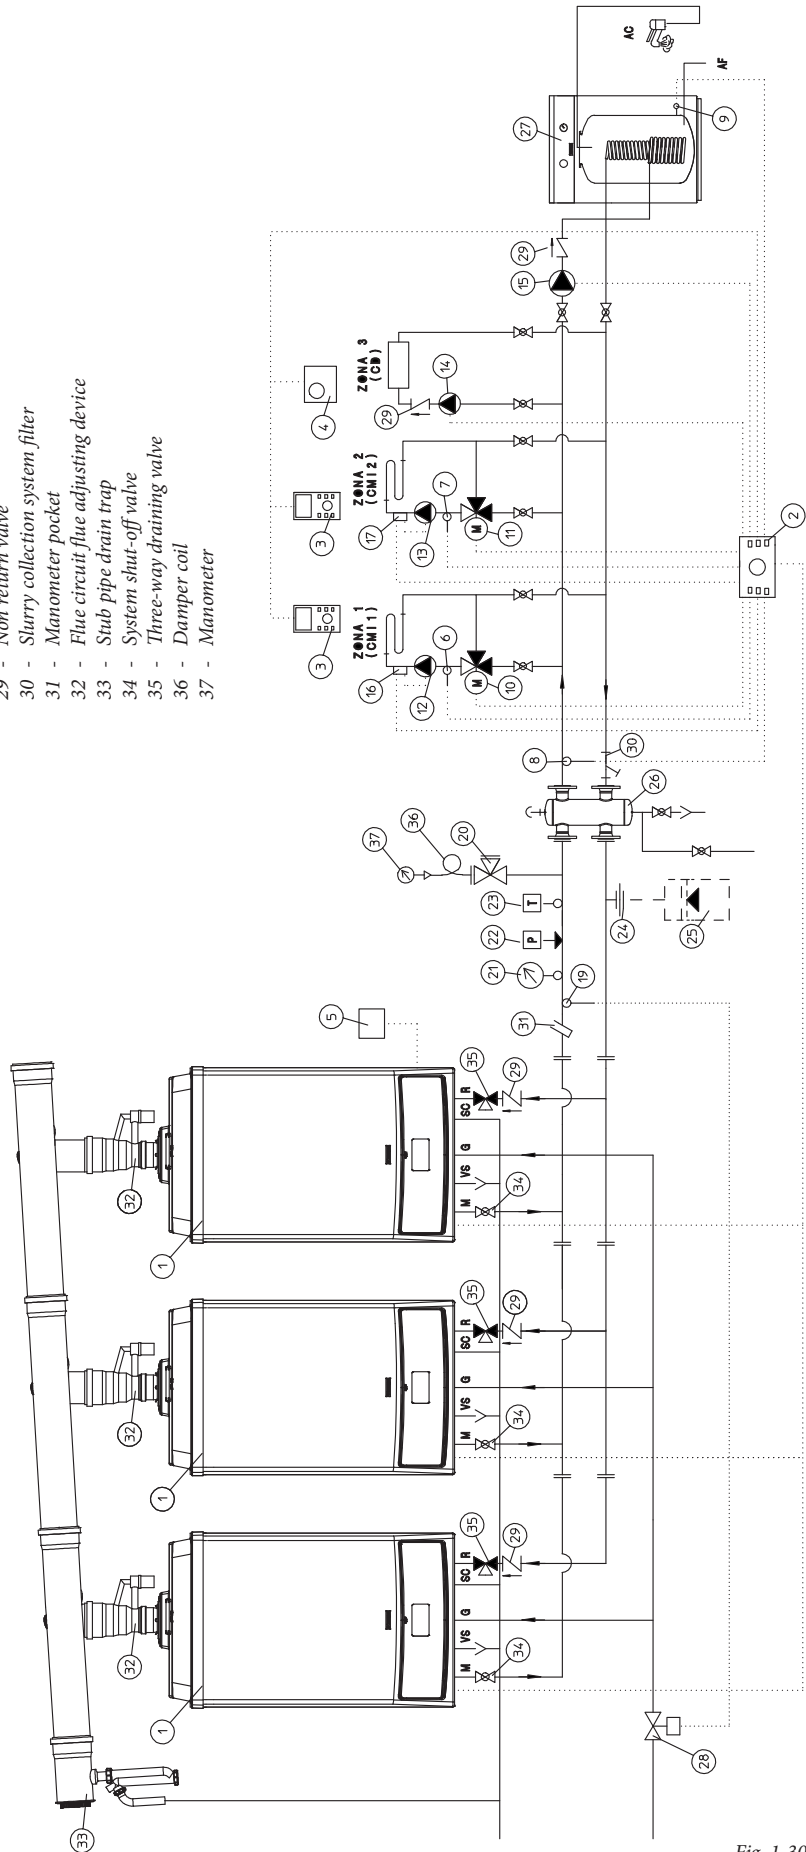

Fig. 1-30
N.B.: in the case of maintenance interventions of the boiler that lead to the closure or one or both system cut-off cocks (34 Fig. 1-30), the boiler must be switched-off.